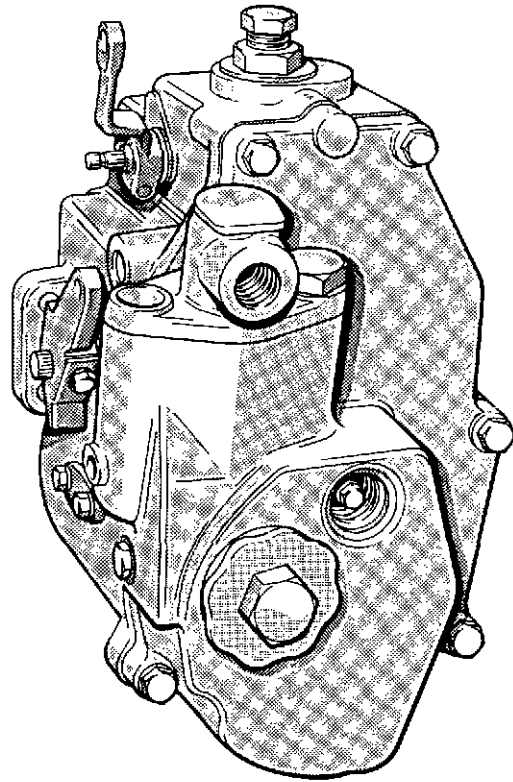

Fig. 15a Governor end cover (Early engines)
- (a) If the earlier type end cover is fitted (fig. 15a), remove the vent bolt and the oil inlet connection from the servo cover flange. Lift off the servo cover, discard the gasket, remove and discard the 'O' ring seal from the groove in the servo cover body. Lift out the valve assembly.